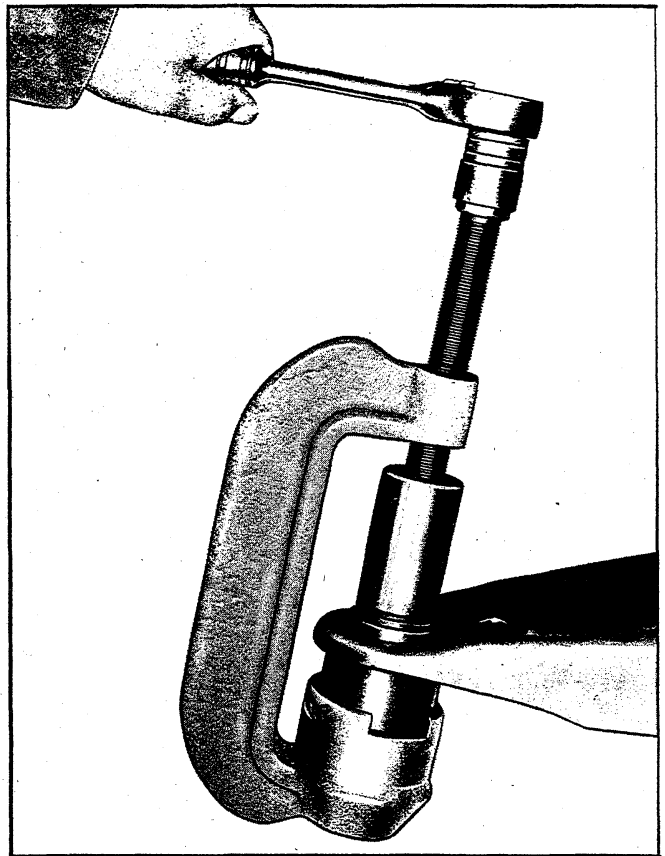

Fig. 27 - Removing Lower Ball Joint - Chevelle & Camaro
3. Use a screw driver to pry off the seal and retainer. Install Tools J-9519-10, J-9519-17 and J-9519-7 as shown in Figure 27 and turn down on the hex head screw until the ball stud is pushed out.